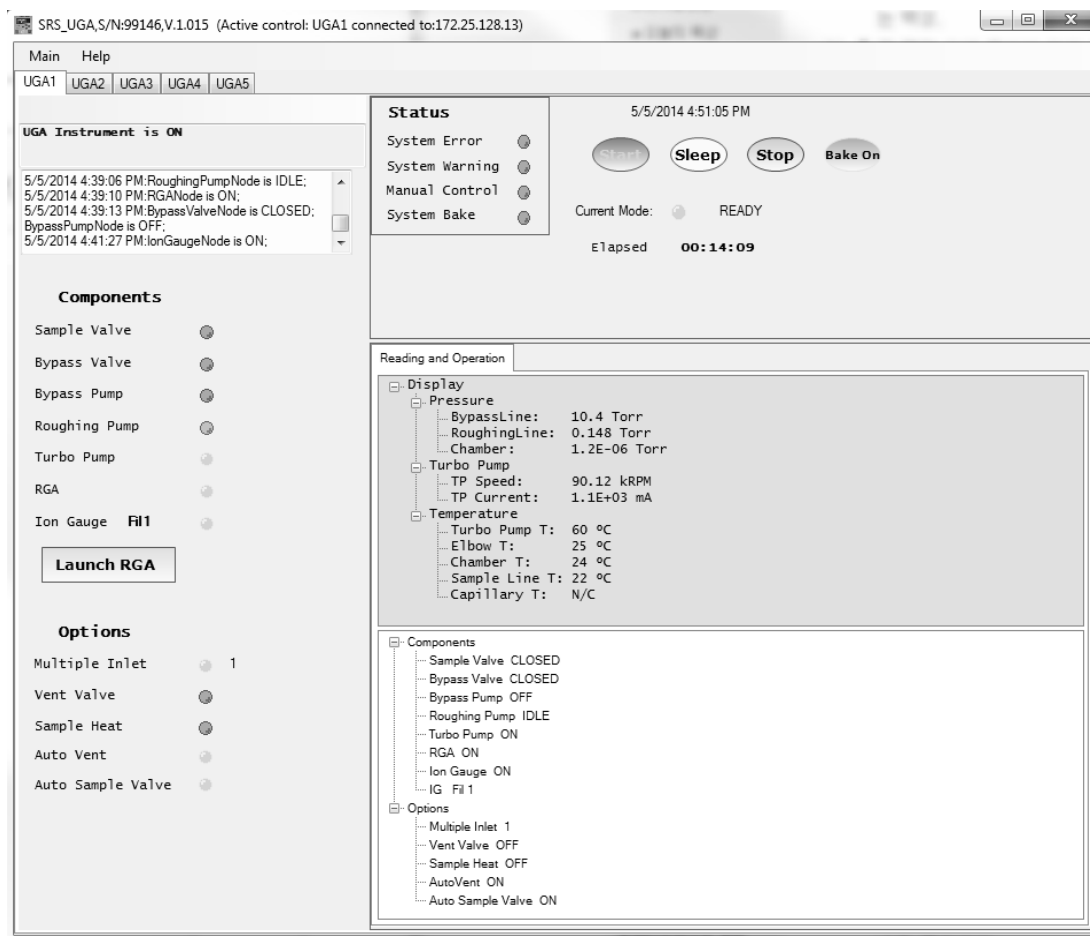

Fig. 2-12. Screenshot of UGA control software after proper TCP/IP Ethernet connection. On the title bar, the connection status is shown.
- The program shows the complete present state. Fig. 2-12 shows that the Multiple inlet is installed in this Unit and the position is at #12 channel. The unit is stopped, which is the Off state, etc.